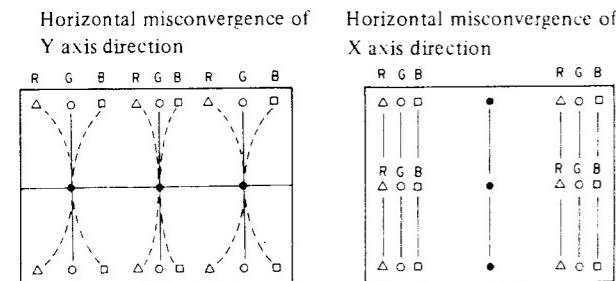

Figure 21
The Deflection Yoke (DY) used in this model generates an almost uniform magnetic field in order to get fine beam spot size. Accordingly basically misconvergence of horizontal direction as shown in Figure 21 is generated on the picture screen.